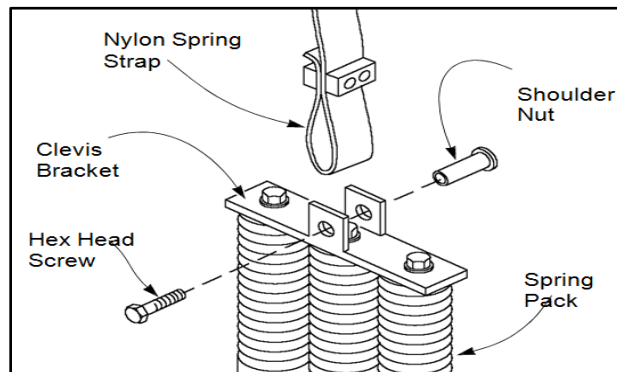

Figure 59
5. To release the spring pack from the strap, remove the hex screw and the shoulder nut passing through the clevis bracket located at the top of the spring pack. (See Figure 59.)